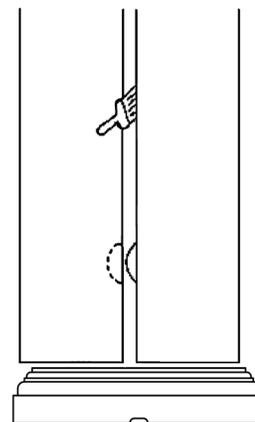

Figure 11
4. Thoroughly coat all four joining surfaces of the shaft with polyurethane adhesive (Fig. 11).